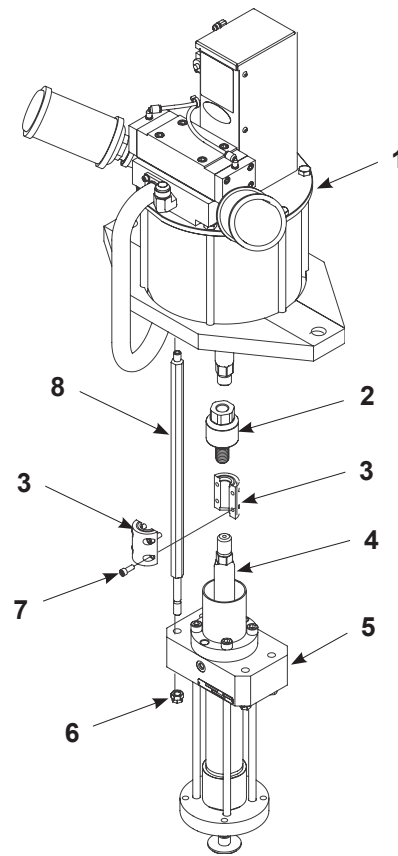

Figure 4-10 Remove/Replace Pump (2 of 2)
See Figure 4-9 and Figure 4-10.
8. See Figure 4-10. Remove the screws (7) securing the coupling halves (3) to the floating coupler (2) and pump plunger rod (4).
9. Remove the nuts (6) securing the pump (5) to the pump tie-rods (8).
10. Remove the pump (5) from the pump/ram assembly.
- Tighten nut (6) to 75 N•m (55 ft lb).